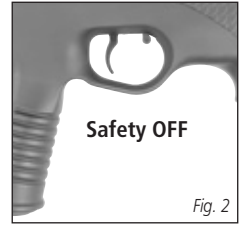

Fig. 2
- To remove the safety to 'OFF', push safety lever forward. In this position, the gun is ready to shoot. (Fig. 2)